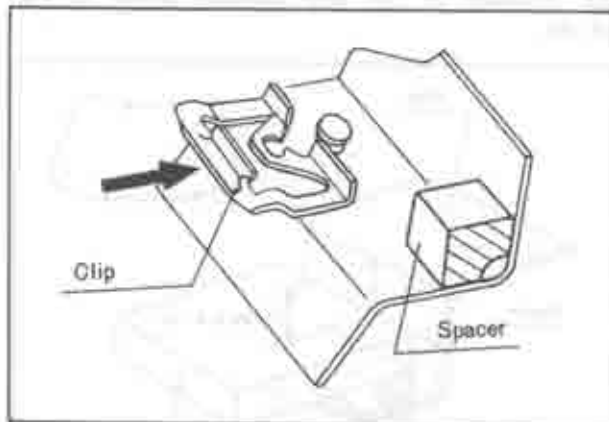

Fig. 14-30 Installing mould retaining clip
5. Insert each mould retaining clip to the clip insertion portion in the manner shown in Fig. 14-30. Replace the retaining clips as required to insure adequate mould retention.